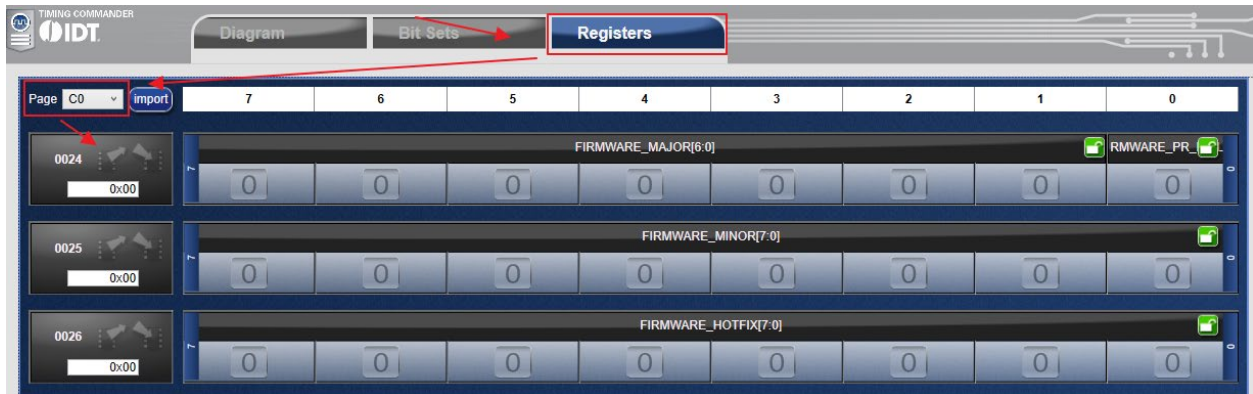

Figure 7. Read Register 0xC024
5. Read register 0xC024, as shown in Figure 7. Select the “Registers” tab, Page “C0” and scroll down to register “0024” and press the “Read” button. The reason for this step is that it forces the GUI to a known Page Registers, and ensures updates will automatically include the Page Registers.